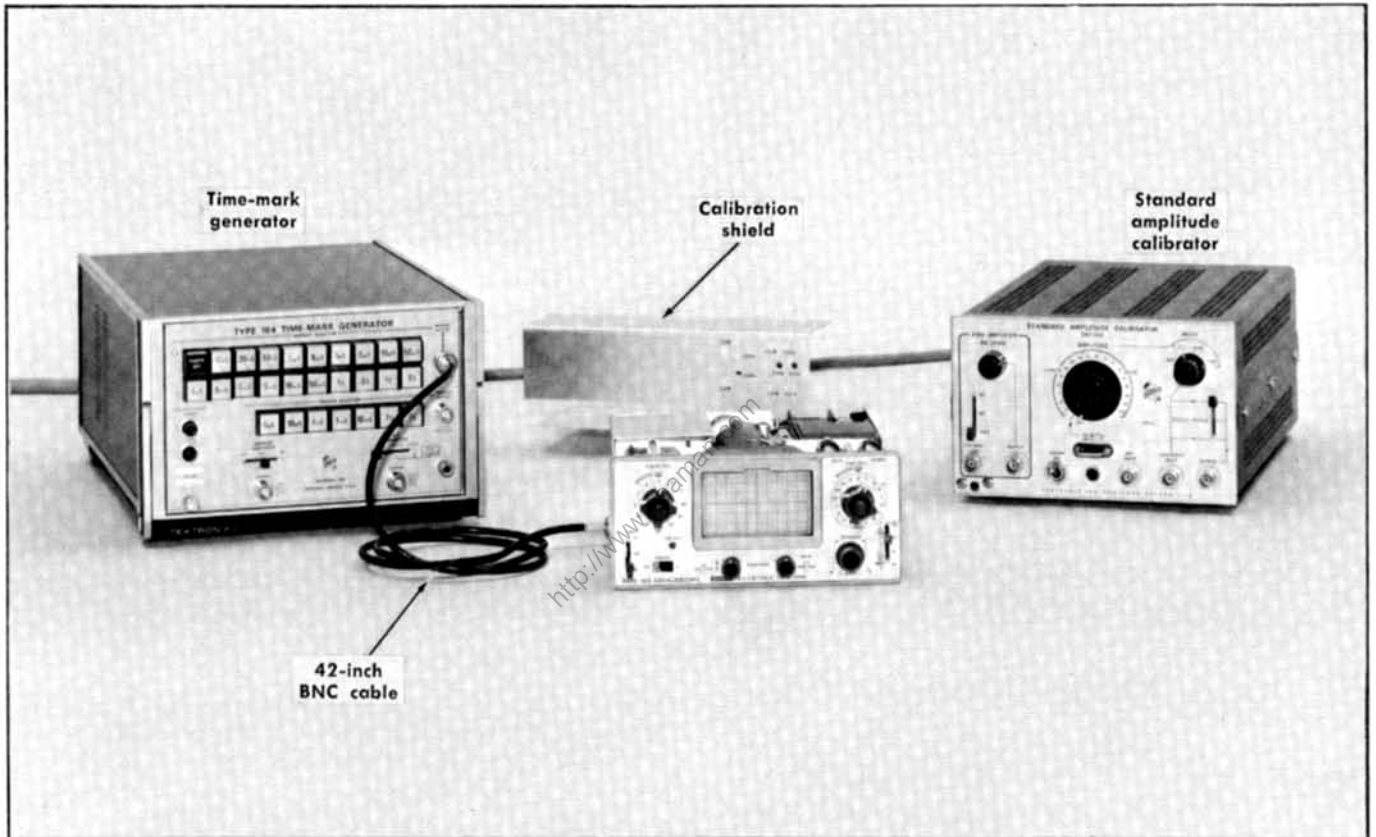

Fig. 6-6. Initial test equipment setup for steps 13 through 22.
- a. Test equipment setup is shown in Fig. 6-6.